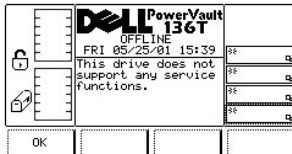

Figure 120. Service > Drives Service Dialog
- 1 If the button beneath the **OK** softkey is pressed, the current values are accepted and the Drive Service Function Submenu is displayed. Refer to Figure 120.
When the drive is selected, the Drive Service Dialog is displayed. See Figure 120.